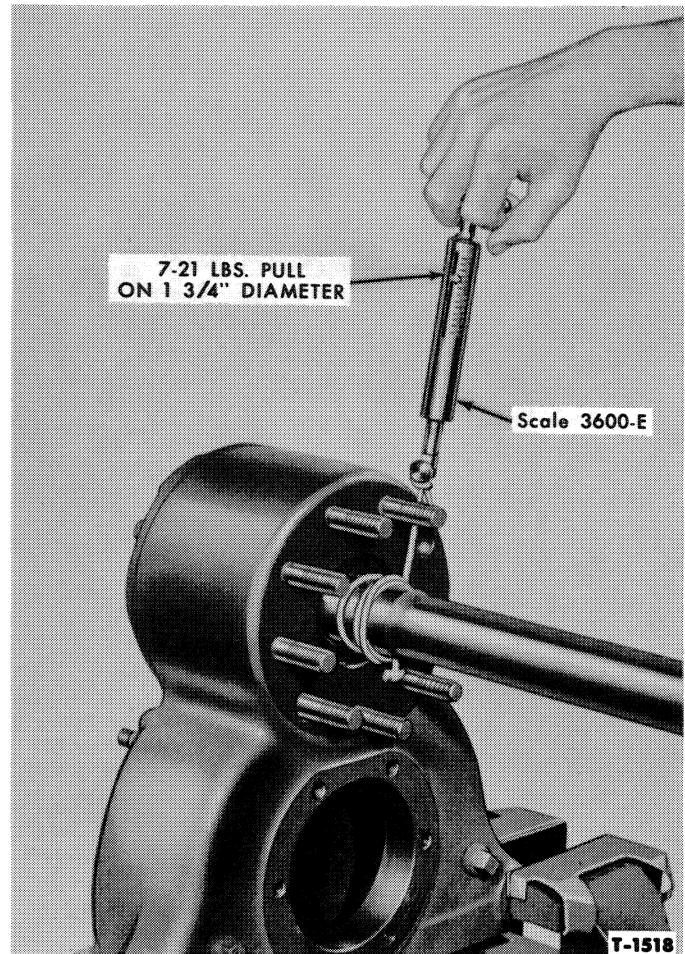

Figure 21—Checking Upper Shaft Preload
4. Attach a small cord to Pull Scale 3600-E and wrap it around the shaft as shown in Figure 21.